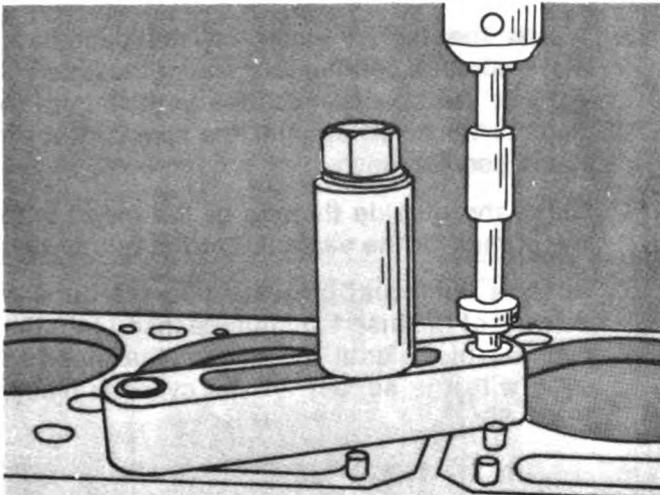

Fig. 1-32. Cut The Water Hole.
- Engage the drill adapter into the counterbore cutter, Fig. 1-32.